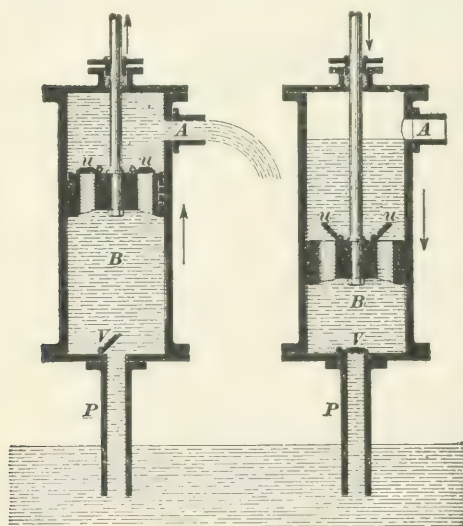
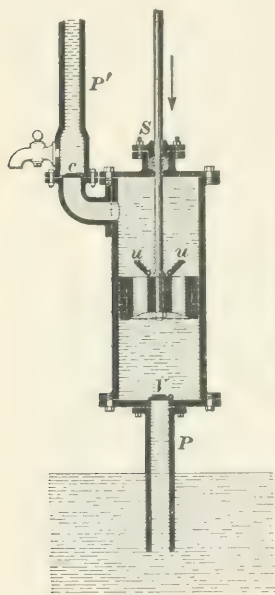

FIG. 25.
FIG. 26
70. The Suction Pump.—A section of an ordinary suction pump is shown in diagrammatic form in Fig. 25.
72. The Lifting Pump.—In some cases it is desired to raise water higher than it can be forced by the pressure of the atmosphere into the chamber of a simple suction pump, such as is shown in Fig. 25. To accomplish this the pump chamber with its bucket and valves are set at a distance above the supply not exceeding that to which the air will successfully force the water. A closed pipe P' , Fig. 26,
While it is customary to consider lifting pumps and suction pumps as two different types of pumps, there is in reality no difference in their operation, as a careful study of Figs. 25 and 26 will show. The only difference is that the water is discharged by a suction pump *at* the level of the